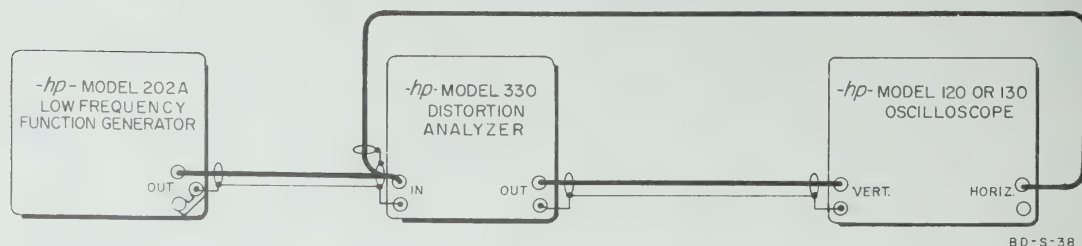

Figure 4-1. Minimum Distortion and Frequency Adjustment Instrumentation
- 9) Disconnect the voltmeter and connect equipment as shown in Figure 4-1.